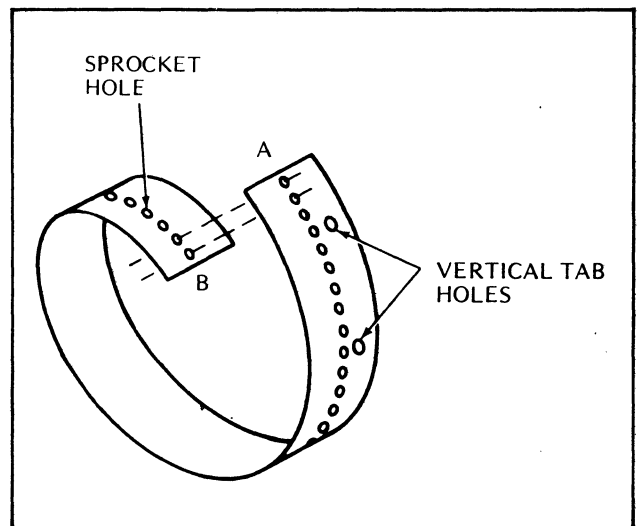

Figure 12-8. Splicing a VFU Tape
1. As shown in Figure 12-8, overlap the two ends of the tape (A and B) and place the sprocket holes over one another to properly align the two ends. Arrange the splice so that the distance between consecutive Form Feed holes is the same all around the tape.